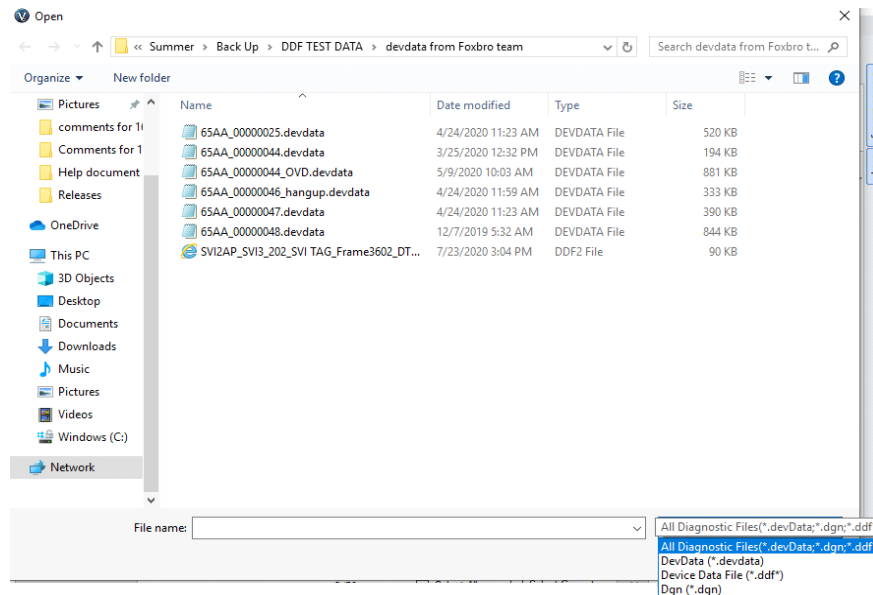

Figure 100 - Import Diagnostic: Open
1. Click **Import Diagnostic** button and Figure 100 appears. SVI3 DTM allows to import diagnostic test data through four types of files: DevData, DDF (including DDF and DDF2) and Dgn formats.